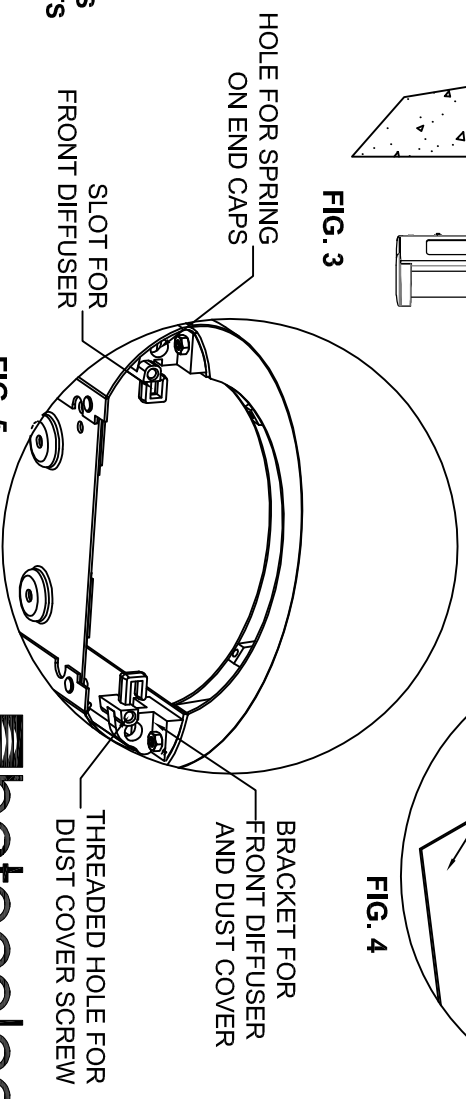

FIG. 5
7. Screw back the top dust cover and attach the end caps by inserting the springs on the allotted holes. Make sure that the end caps are properly inserted. (FIG. 5)